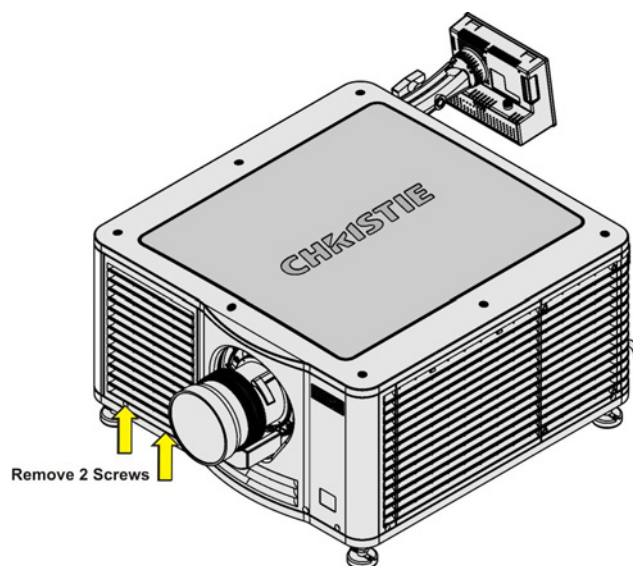

Figure 7-4 Remove Light Engine Air Filter
1. Loosen the 2 captive screws on the bottom of the filter cover. (**Figure 7-4**)